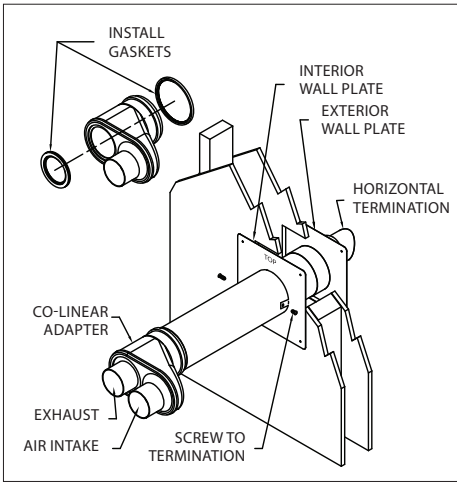

Figure 24
- If using a PolyPro Single-Wall to PolyPro Concentric adapter, install gaskets as shown in **Fig.24** before connecting to the vent pipe.